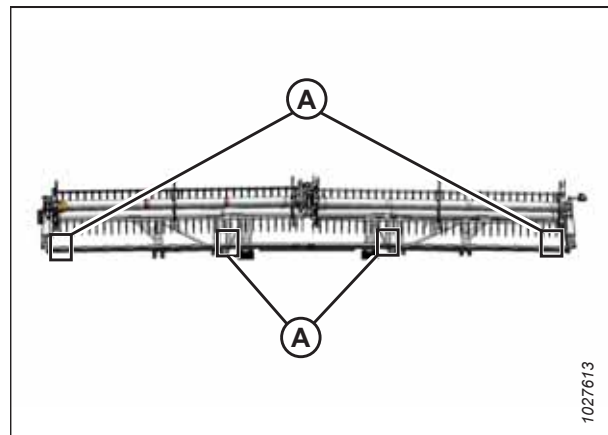

Figure 4.280: FlexDraper® Measurement Locations – Double Reel
- Double-reel headers: Figure 4.280, page 630